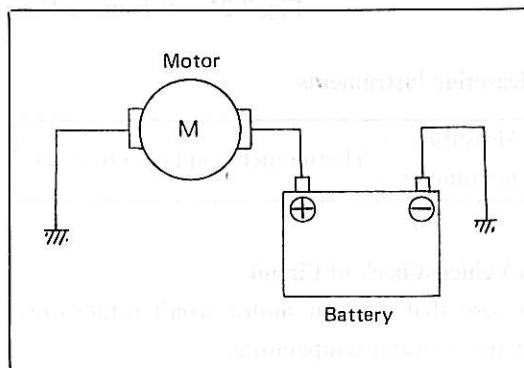

Fig. 7-24 Checking Fan Motor
1. Hook up the fan motor relative to the battery, as indicated in Fig. 7-24.